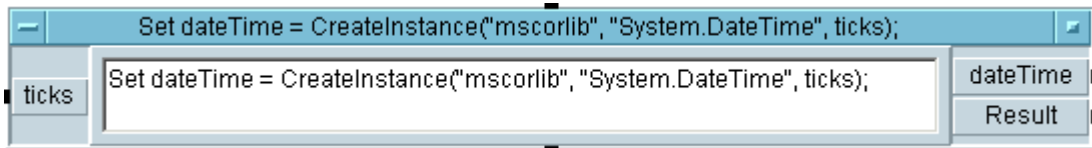

Figure 170 Creating a .NET Object
- 3 To create a .NET object, select a Constructor (constructors and methods share this icon ) in the member list. As in the previous graphic, the Create Instance button is available. Selecting this button generates a formula template for creating a new .NET object. Note the dateTime output pin in Figure 170 that is generated by VEE. You may connect this output pin to the input pin of any formula box that requires this .NET object as input. See “Lab 7-5: Using .NET to Get File Information” on page 329 for an example.